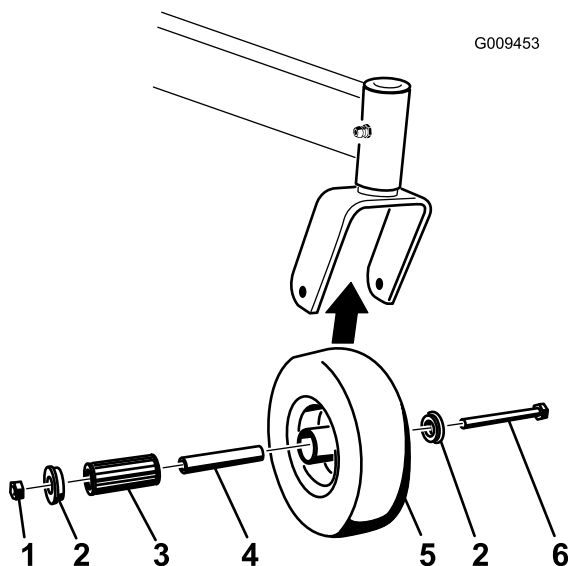

Figure 61
1. Remove the locknut and wheel bolt holding the caster wheel to the caster fork (Figure 61).
2. Remove one bushing, then pull the spanner bushing and roller bearing out of the wheel hub (Figure 61).
3. Remove the other bushing from the wheel hub, and clean any grease and dirt from the wheel hub (Figure 61).
- Note:** Replace any defective or worn parts (Figure 61).
5. Place one bushing into the wheel hub (Figure 61).
6. Grease the roller bearing and spanner bushing, and slide them into the wheel hub (Figure 61).
7. Place the second bushing into the wheel hub (Figure 61).
8. Install the caster wheel into the caster fork and secure it with the wheel bolt and locknut (Figure 61).
9. Tighten the locknut until the spanner bushing bottoms against the inside of the caster forks (Figure 61).